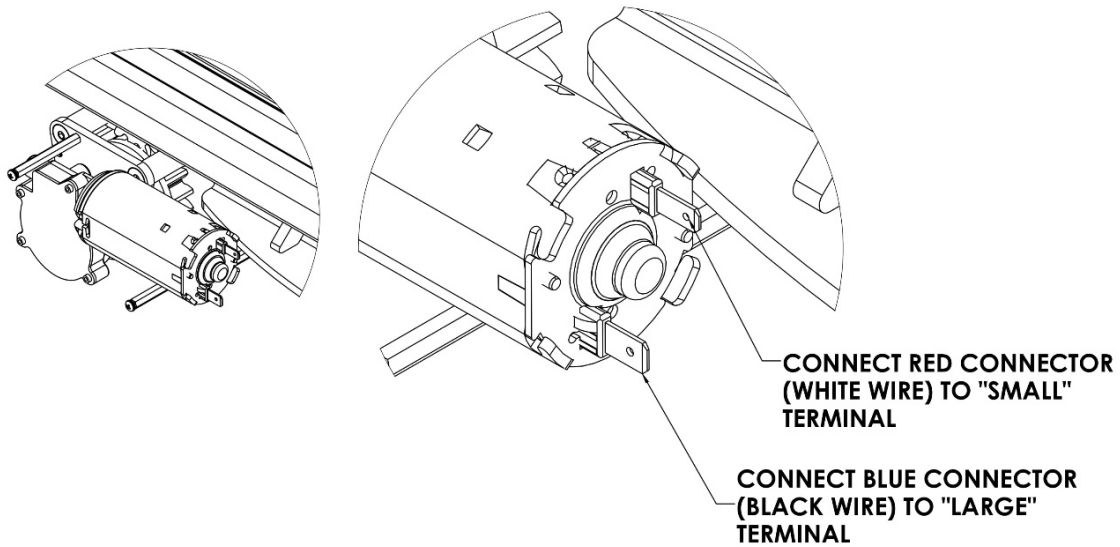

Figure 65: *Long Wire Ceiling Lift Connections*
12. Connect the other end of the long wire to the gantry motor (Figure 65.):